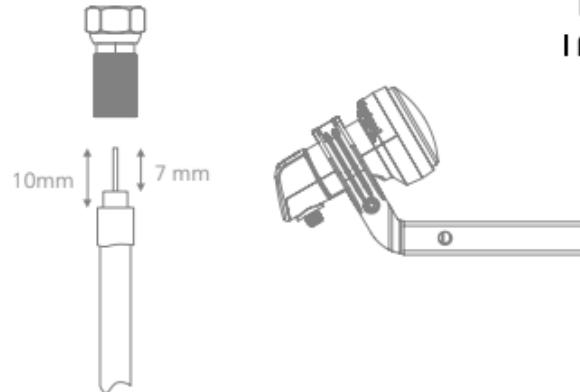

Fig. 4
2. Strip the cable insulation and screw the F-plug\* onto the end of the cable (Fig. 4).